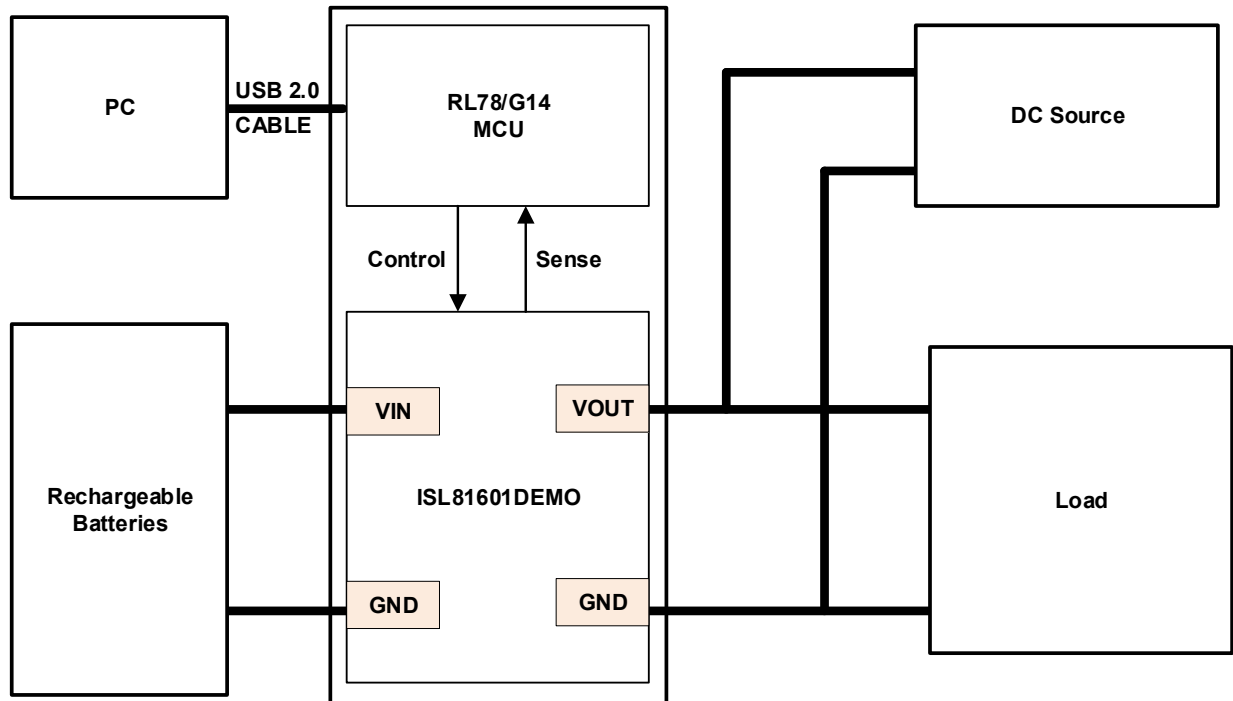

Figure 2. Hardware Connection
1. Set up the hardware as shown in Figure 2.